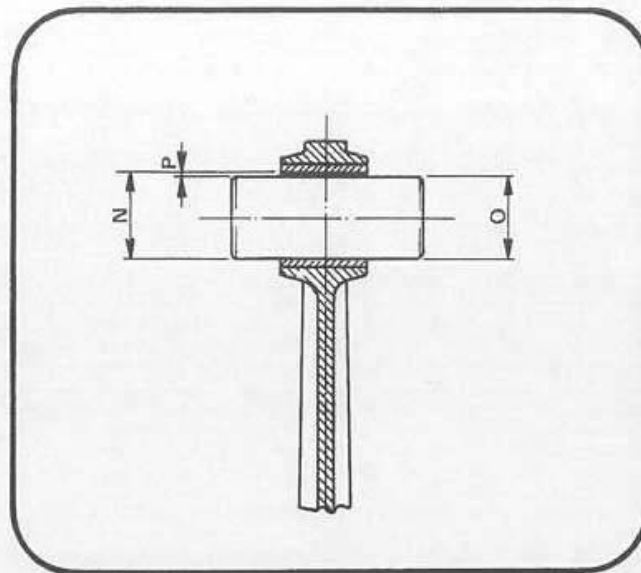

Fig. 57
**GIOCHI MIN E MAX FRA SPINOTTO E BIELLA** (vedi fig. 57 e tabella 6).
**MIN. AND MAX. ASSEMBLY CLEARANCE BETWEEN GUDGEON PIN AND CONNECTING ROD SMALL END BUSH** (see fig. 57 and table 6).